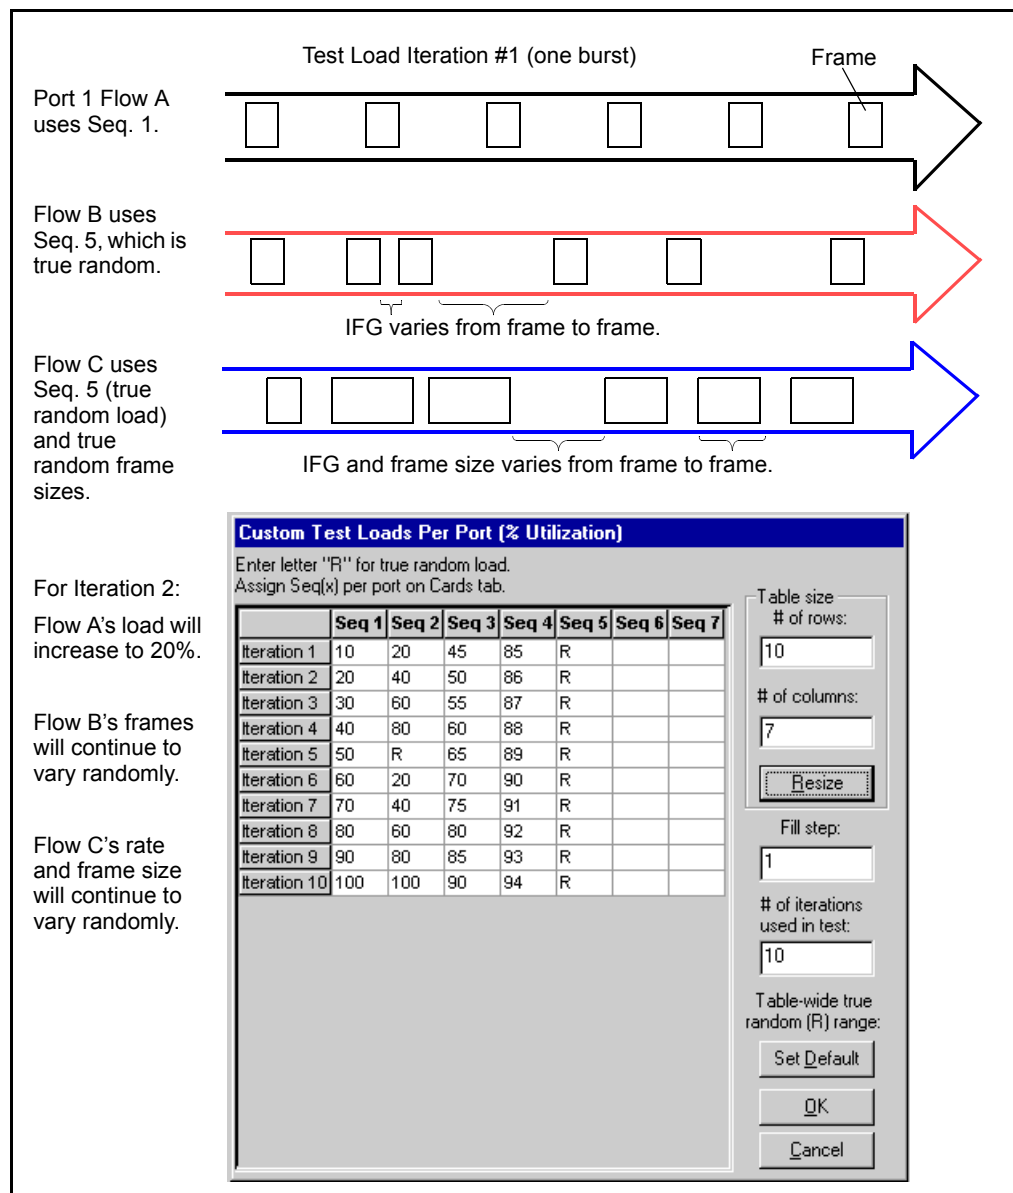

Figure 8-24. Comparison of Custom and True Random Loads
In Figure 8-24, notice how each IFG varies in Flows B and C, which use true random (R) loads, even within the same iteration.